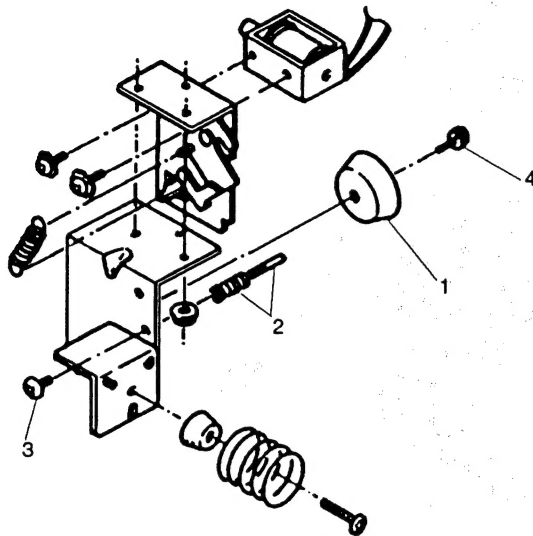

Fig.3-5
- ① Remove the drawer bottom plate.
- ② Install each component 1 to 4 as illustrated in Fig. 3-5.